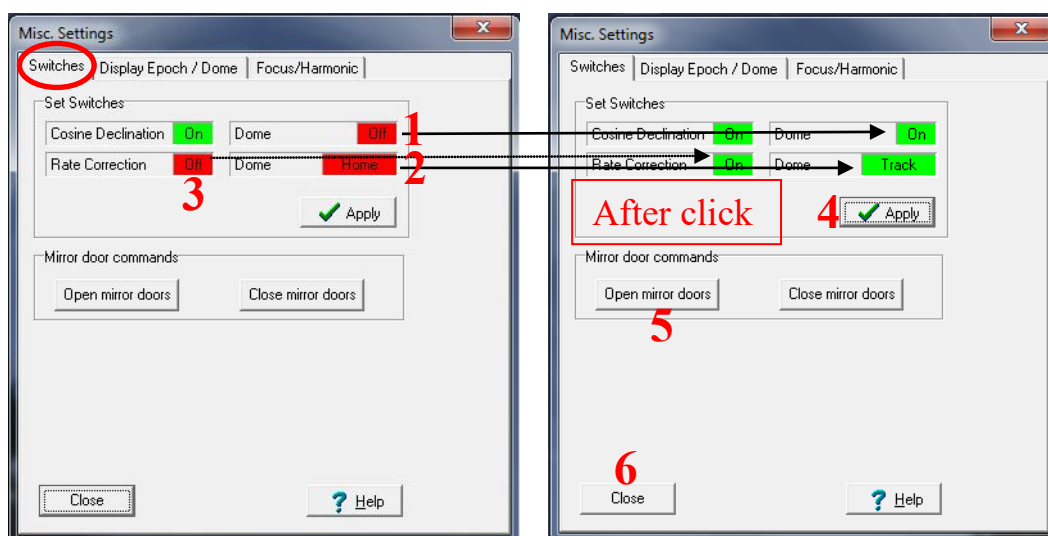

Fig. 2.9. The switches menu. After clicking on the No 1-3 red boxes (left) they change to green (right).
- iii. In the “Misc...” window click on the “Switches” tab (Fig. 2.9 left). Then, click on a) the “OFF” red box of the upper Dome switch (No 1) (it will change to “ON”), b) on the “HOME” box of the lower Dome switch (No 2) (it will change to “Track”), and c) on the “OFF” red box of the Rate correction switch (it will change to “ON”) (No 3). Press “Apply” (No 4).